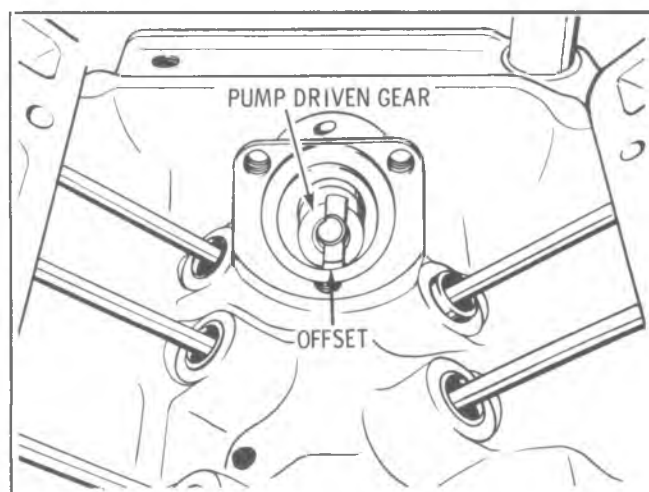

Fig. E-17—Offset on Pump Driven Gear
2. Position engine on No. 1 cylinder. Align mark on balancer with zero mark on indicator. Refer to Fig. E-17 for position of injection pump driven gear. (The index is offset to the right when number one is at T.D.C.)